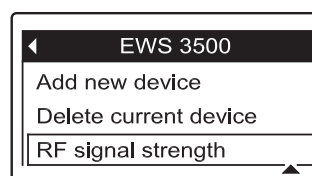

FIG. 100
3. Press the DOWN (▼) button to scroll through the menu options until **RF signal strength** is highlighted in a box (See Figure 100).